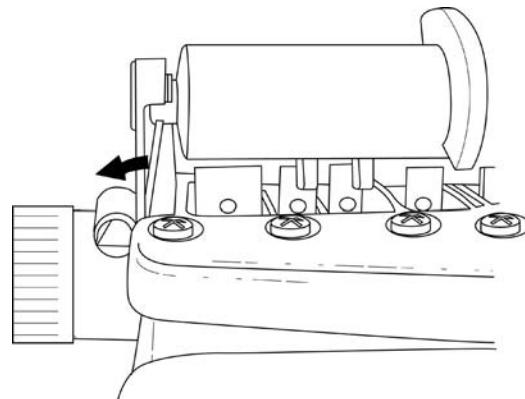

Figure 13: Removing the camshaft
4. Remove the camshaft by carefully pushing the securing tab, located at the rear of the camshaft, away from the camshaft until the tab disengages from the camshaft. Push the back of the camshaft down and out to the inlet side of the valve (Figure 13).